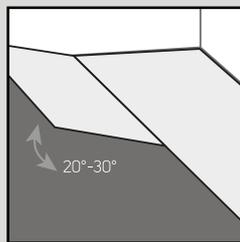

Fig. 3
4. 4a. Start the second row by clicking the tongue into the groove holding the plank at an angle (approximately 30°), then tap the plank/tile firmly into the groove of the first row (Fig. 3).